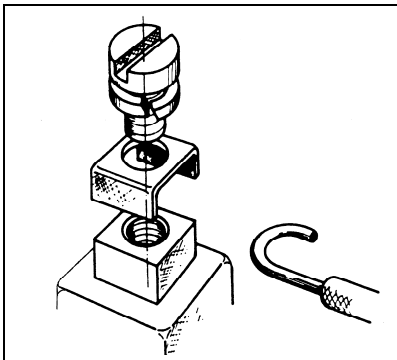

Fig. 7: Protective ground lead connection
**i** For connecting the protective ground lead, a screw (4 mm2) with an anti-twist terminal clip is located in the terminal box (fig. 7). The VDE grounding symbol indicates this screw.